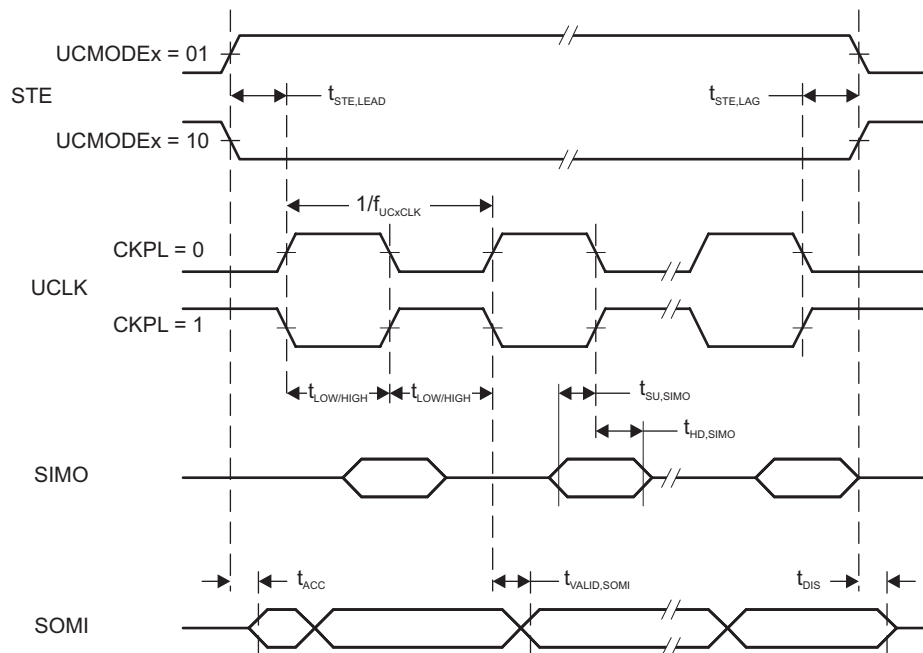

Figure 5-15. SPI Slave Mode, CKPH = 0
- (3) Specifies how long data on the SOMI output is valid after the output changing UCLK clock edge. Refer to the timing diagrams in Figure 5-15 and Figure 5-16.